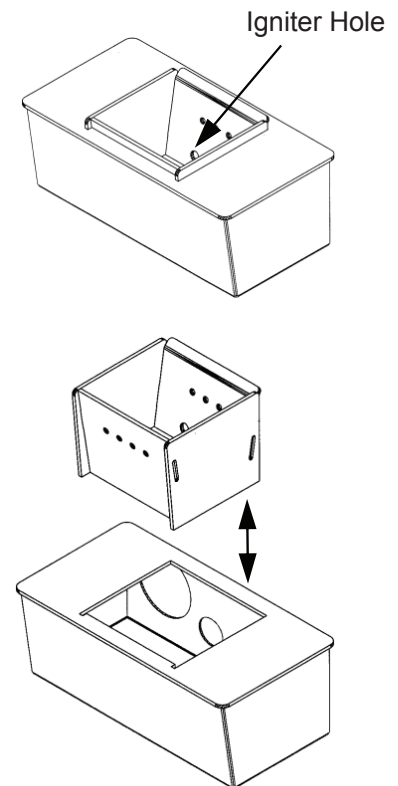

FIGURE 23
- Open door and remove the optional imitation log set, if in use. Remove the burnpots inner section by grasping it and pulling straight up (see Figure 23).
- Replace inner section into burnpot; make sure it is level and pushed all the way back down and that the igniter hole is to the rear when it is reinstalled (see Figure 23).